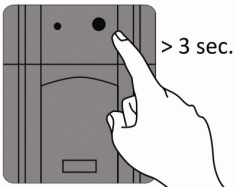
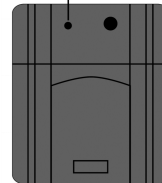

Figure 3.9
Figure 3.10
2. **If the UPS is in Battery Mode:** Switch off your loads safely. Press and hold *On/Off* button until the warning beep silences (Figure 3.9). Observe that the orange coloured *Operation Status LED* fades out (Figure 3.10).